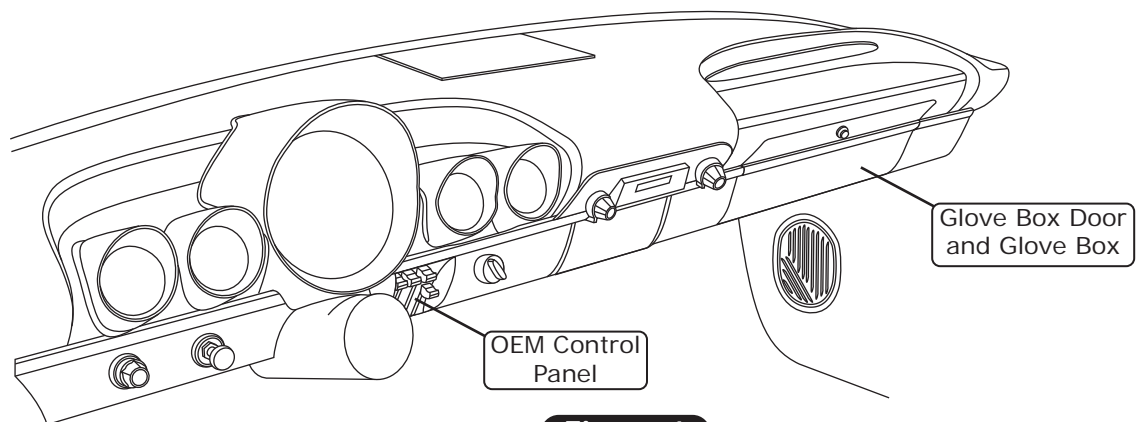

Figure 1
1. Flatten or remove the firewall opening flange (See Figure 1, below).